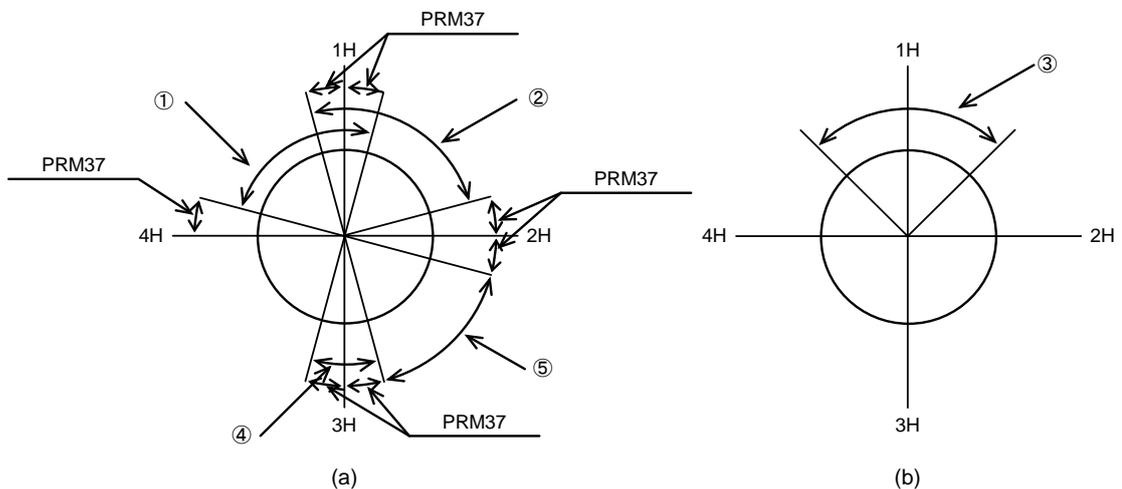

Fig. 7.8 Equal Segment Designation (G101) & Parameter
When within ① range for (a), Fig. 7.8 (a), executing G101A4;G91A0F□□ will cause the actuator to move to 1H position.
When within ② range for (a), Fig. 7.8 (a), executing G101A4;G91A0F□□ will cause the actuator to move to 1H position.
When within ③ range for (b), Fig. 7.8 (b), executing G101A4;G91A0F□□ will cause the actuator to move to 1H position (nearest position). PRM 37 will not influence motions.
If G101A4;G91A0F□□ is executed in the range specified ④ in Fig. 7.8 (a), a travel to position 3H occurs.
When within ① range for Fig. 7.8 (a), executing G101A4;G91A-1F□□ will cause the actuator to move to 4H position.
When within ③ range for Fig. 7.8 (b), executing G101A4;G91A1F□□ will cause the actuator to move to 2H position and G101A4;G91A-1F□□ will cause the actuator to move to 4H position.
If G101A4;G91A-1F□□ is executed in the range specified ④ in Fig. 7.8 (a), a travel to position 2H occurs.
Within the range ④ in the Fig. 7.8 (a), executing G101A4;M70; will cause CN3 M code to output the current segment position (segment position 3 .. bit 0 and 1 in the Figure).
Within the range ③ in the Fig. 7.8 (b), segment position 1 (bit 0) is output.
If G101A4;M70; is executed in the range specified ④ in Fig. 7.8 (a), the current segment position (segment position 3 in the figure ... bit 0 and bit 1) is issued from the M code output pins of CN3. If the command is outside the PRM 37 range (in range ⑤), alarm C is caused when G101A4 is executed.